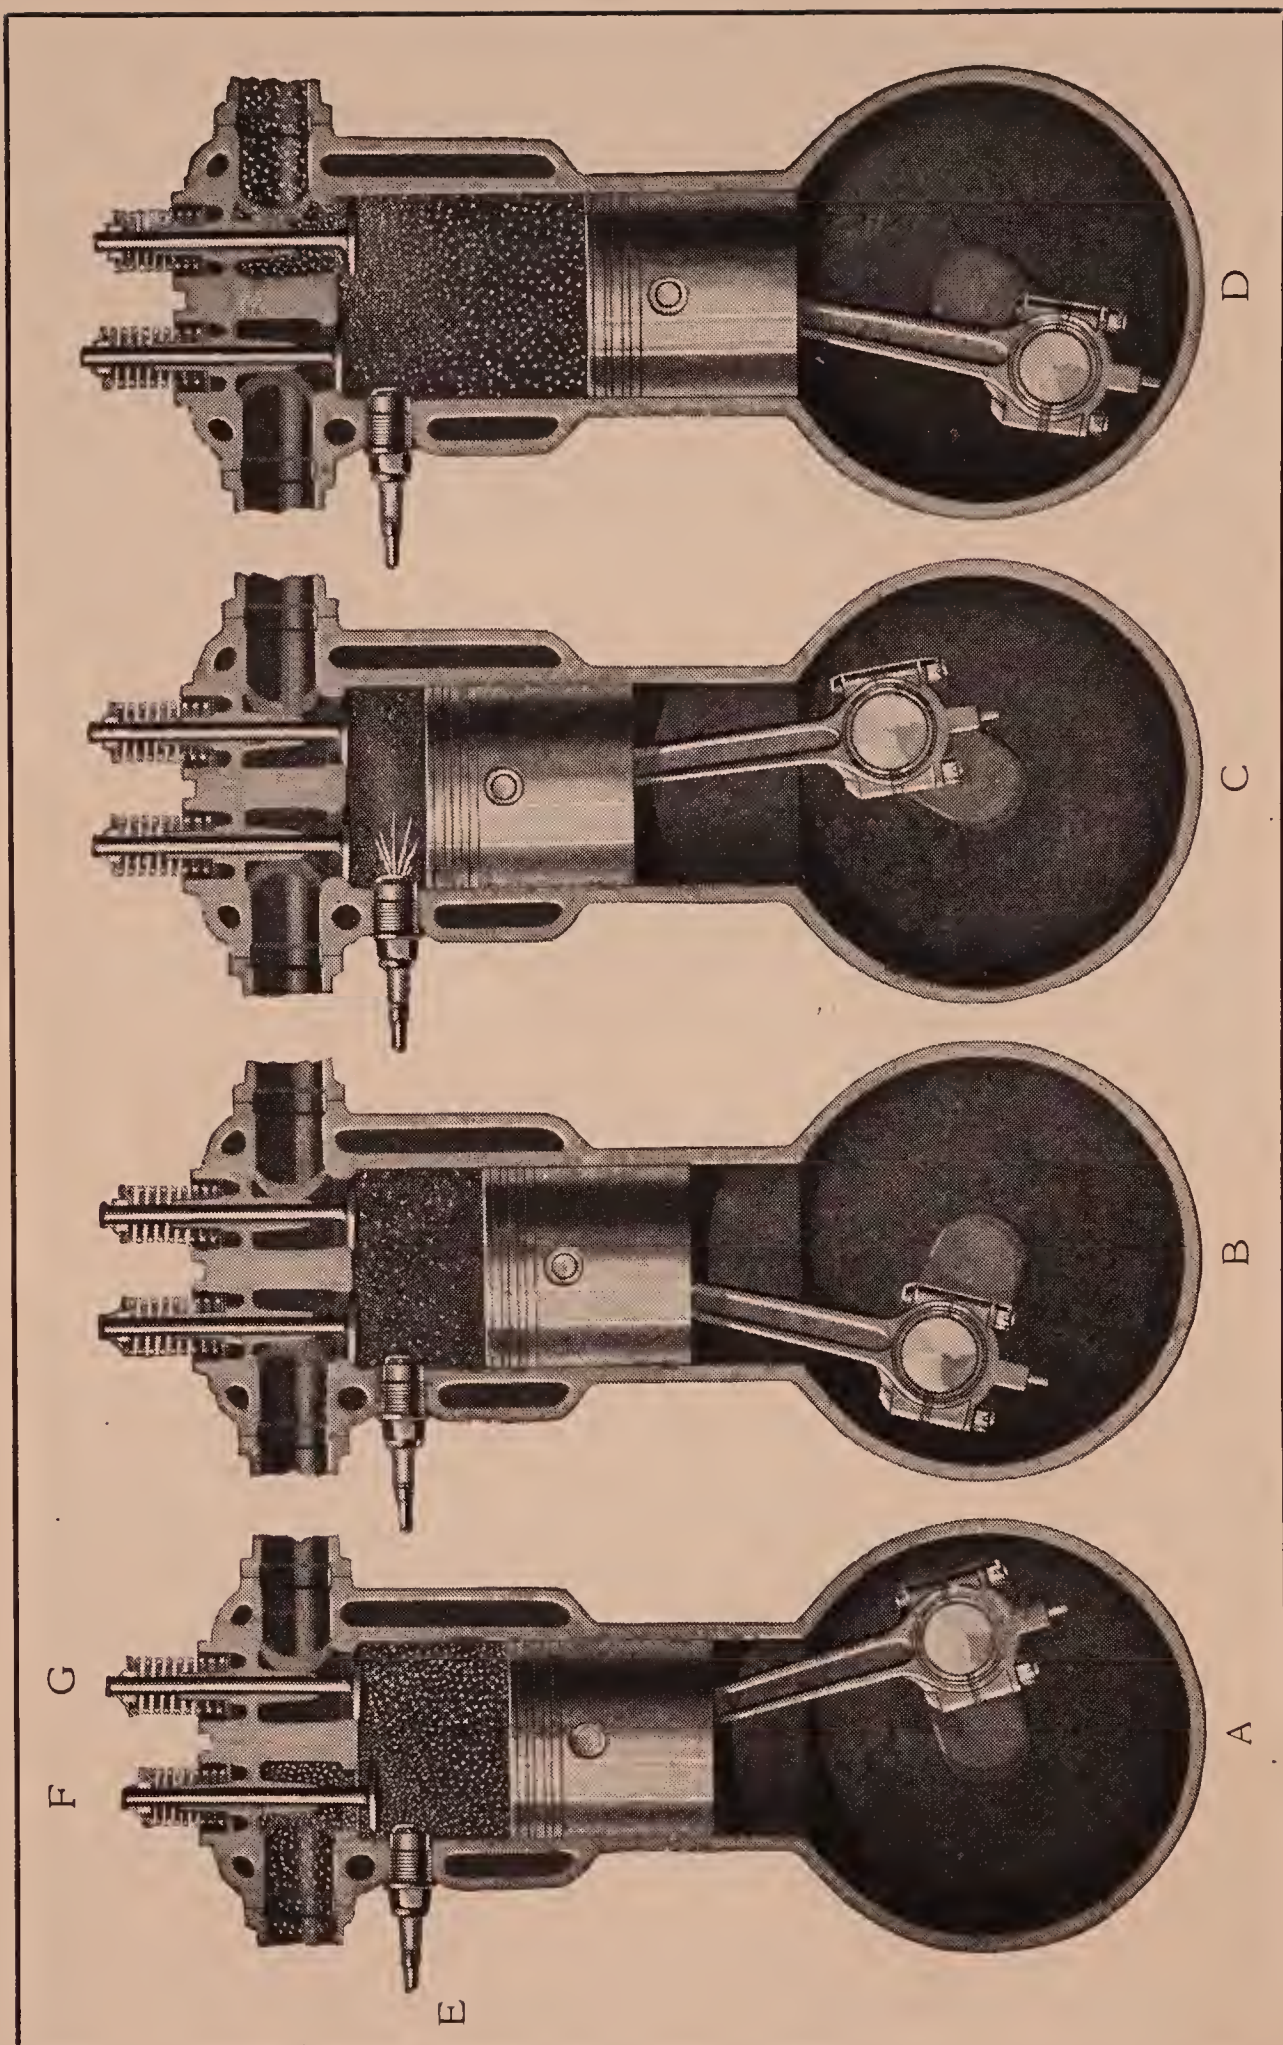

Fig. 6. Four-Stroke Cycle Diagram
Inlet Stroke—(A) The piston starts from the top of the cylinder and moves to the bottom. Just as it does so, the inlet valve (see fig. 6) is opened and the piston draws a charge of fuel (gasoline, for example) mixed with air from the carburetor through the inlet manifold and inlet valve into the cylinder. The inlet valve remains open until the piston has reached the bottom of the stroke (the bottom of the cylinder—the limit of the piston's travel), when it closes. This is the first, or inlet or suction stroke.